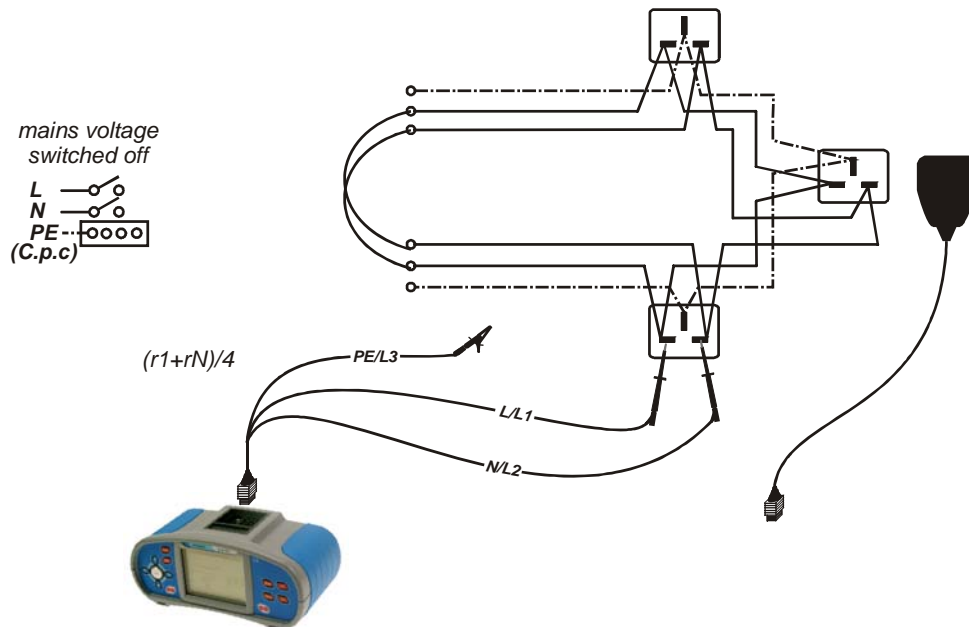

Figure 5.22: Verification of wall sockets of tested ring final circuit using universal or plug cable
- ❑ **Cross-connect** line and neutral conductors of tested ring circuit (see *figure 5.22*).
- ❑ Press the **TEST** key for measurement of the first socket of tested ring final circuit (see *figure 5.22*).